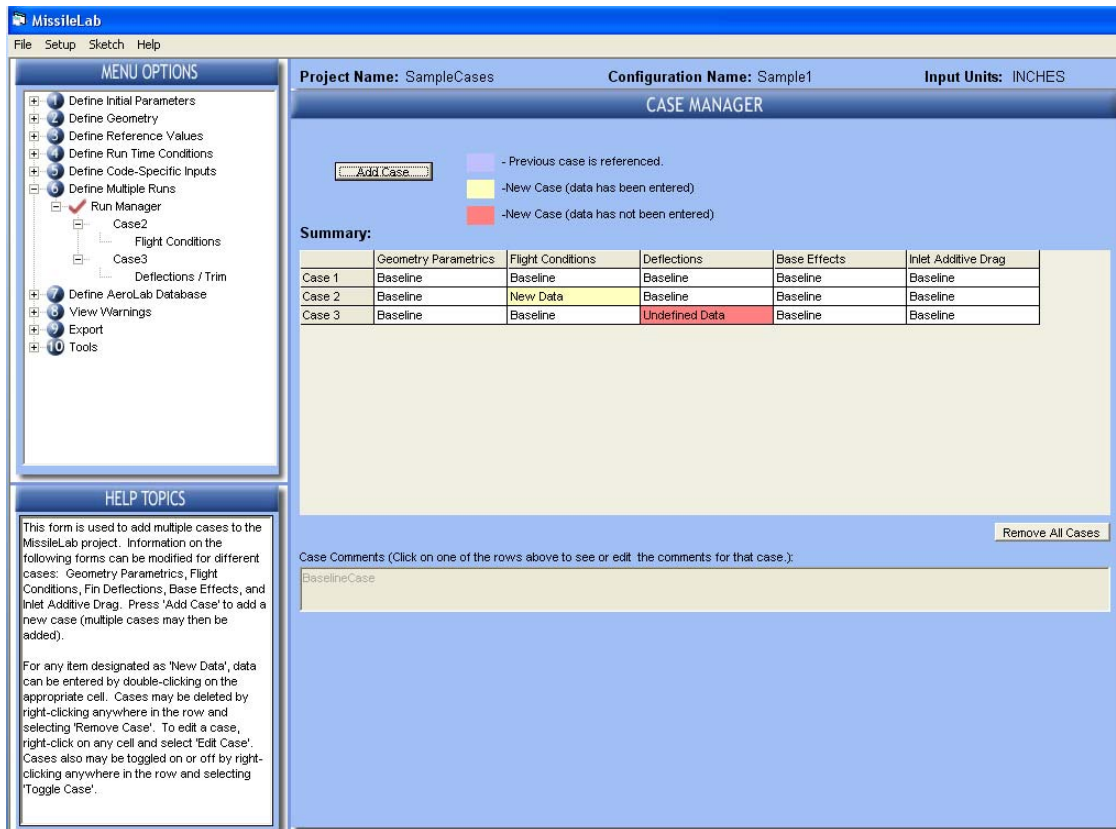

Figure 45. Multiple Run Case Manager Screen
The “Multiple Runs” case manager screen is presented in Figure 45. In designing this screen and functionality, the question that must be addressed is: “What do we allow the user to change for a specific project configuration file?” Using the guidelines set out in Section I, it was decided that for a given configuration, the user should have control over (1) body build-up, (2) flight conditions, (3) control deflections, (4) power-on and power-off base drag, and (5) inlet drag. If, for example, the MissileLab user needs to change the wing geometry, this should be done by making a copy of the MissileLab geometry file (*.MNL) and then modifying the wing in that file. If, however, the MissileLab user wants to make various control deflection runs (for the given airframe geometry), then that will be handled by the case manager, as shown in Figure 45.
Once the baseline geometry is defined, the user may add multiple cases (by clicking on the “Add Case” button), select what will change for that case, and then enter the new data. The data for the new case will be initialized with the data from the baseline case. To enter the new data, the user can “double-click” on the appropriate “Undefined Data” cell in the grid (likewise, “double-clicking” on a “New Data” cell will allow editing of the data). In addition, the cases will be added to the Menu Options tree under Run Manager (as seen in Figure 45), and selecting them works just like clicking on any other “Menu Option” item. When additional cases are defined, MissileLab LOCKS the baseline geometry to prevent the user from inadvertently modifying the baseline data. When this occurs, a red “KEY” command button appears in the upper left of each screen. Clicking on this button will unlock the screen and allow the user to modify the baseline configuration data.